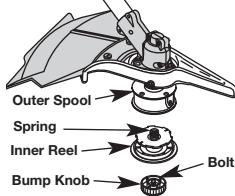

Fig. 25
- Hold the outer spool with one hand and unscrew the Bump Knob clockwise (Fig. 25). Inspect the bolt inside the bump knob to make sure it moves freely. Replace the bump knob if damaged.
- Remove the inner reel from the outer spool (Fig. 25).
- Remove spring from the inner reel (Fig. 25).
- Remove the old inner reel from the outer spool (Fig. 25).
- Remove the spring from the old inner reel (Fig. 25).